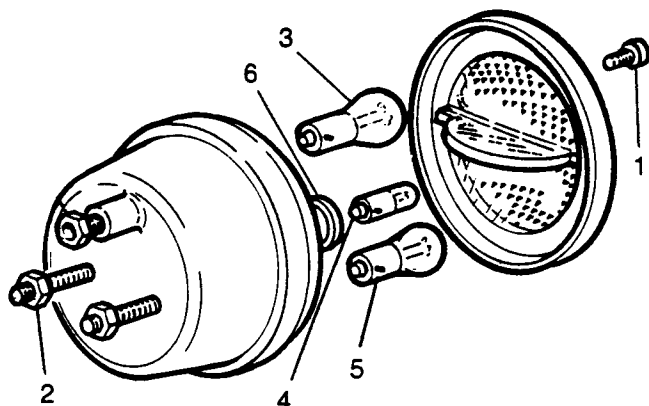

Fig O5.12
(2) Refer to Fig O5.12. Remove the lens fixings (two screws) (1) and pull off the lens.
(3) Remove the bulbs if required.
(4) Remove the fixings for the cover in the rear of the load area behind the lamp (two self tapping screws and one nut) and lift the cover away.
(5) Disconnect the lamp leads at the snap connectors, making a note of the socket each connector comes from.
(6) Remove the two bolts (2) holding the lamp to the wall and pull the lamp body away.